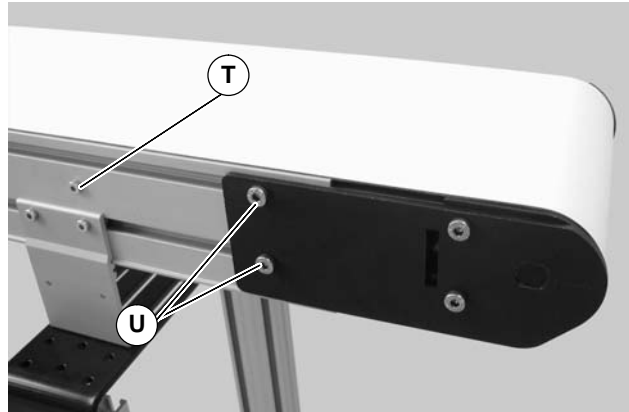

Figure 36
2. On the side of conveyor to be adjusted, loosen two (2) tail clamp screws (U of Figure 36).